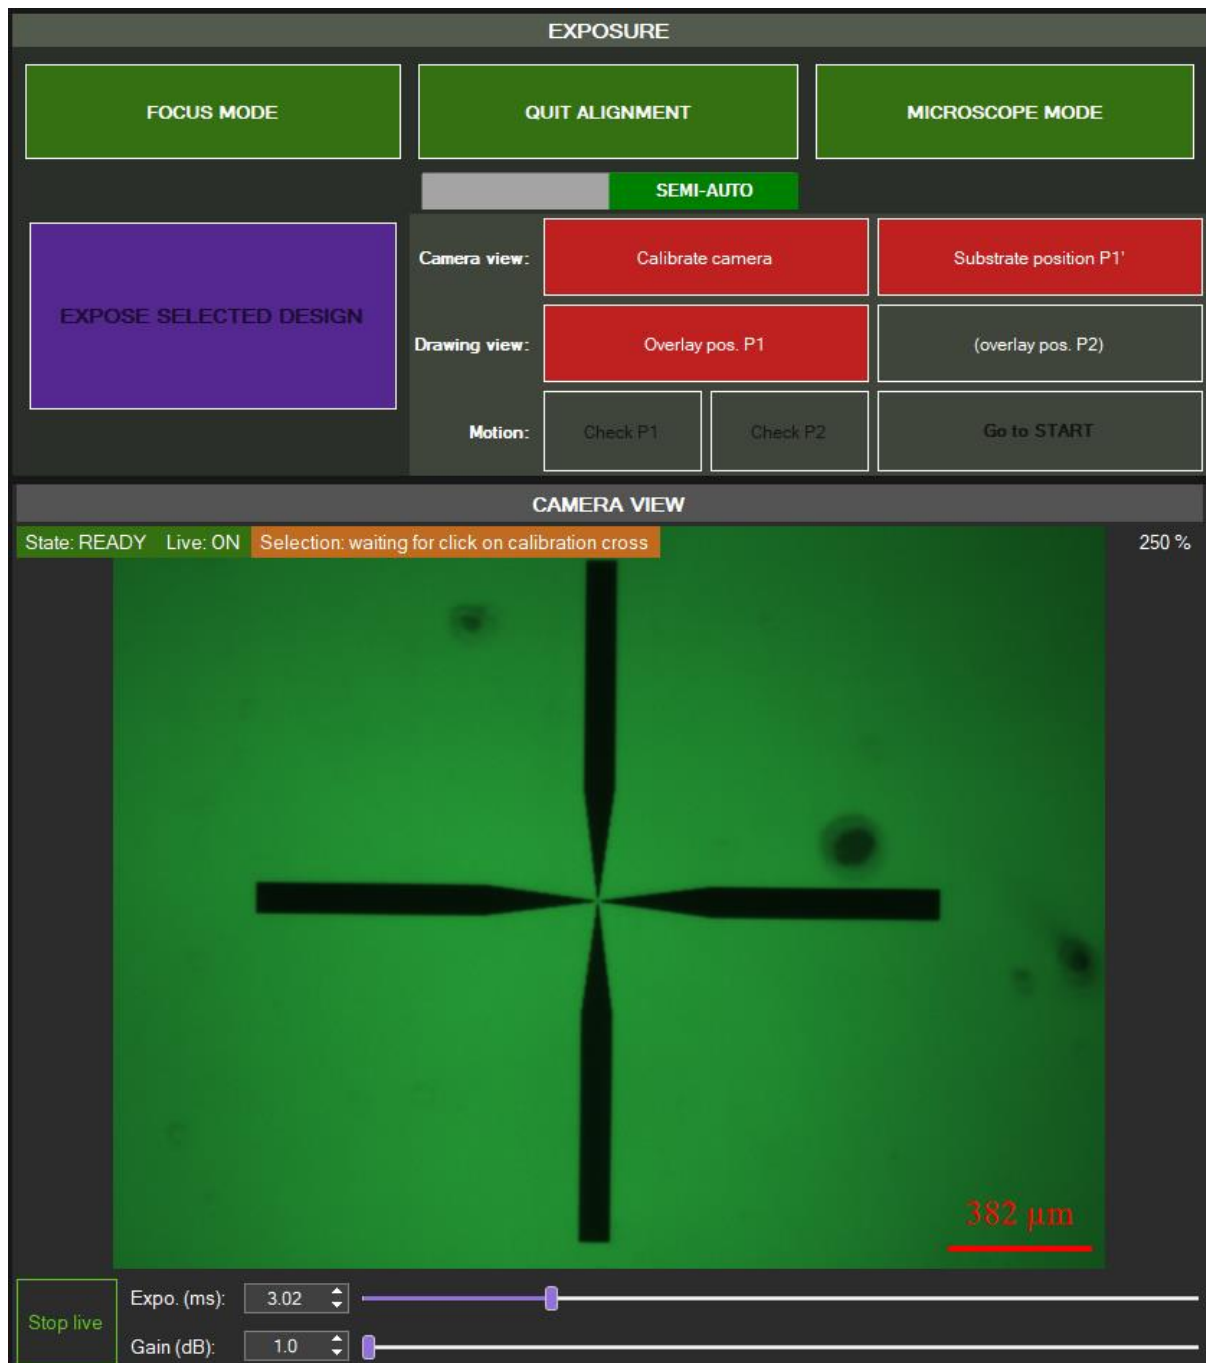

Figure 62 - Semi-auto alignment: camera calibration
- Camera calibration (Figure 61a): click on the **Calibrate camera** button. The camera live view may start and the mouse cursor shape may change. In the **CAMERA VIEW** panel, click on the central part of the displayed cross (Calibration point) as shown in Figure 62.